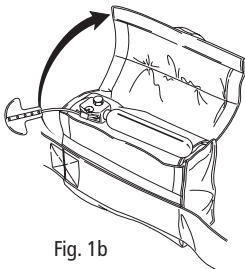

Fig. 1b
- 1) Undo the Velcro™ flap on the back side of the pouch to expose the bladder and inflator (Fig. 1b).